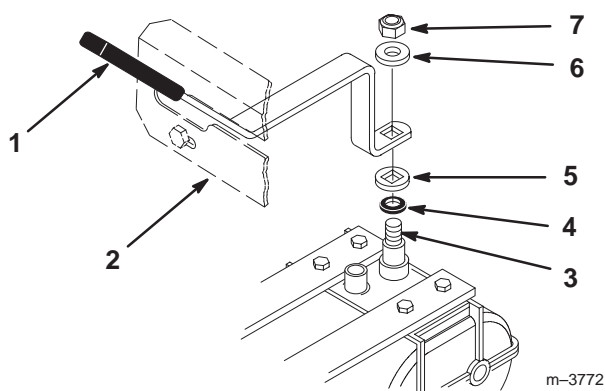

Figure 9
1. Remove the locknut (3/8 in.) and the spring washer (Fig. 9).
2. Slide the shift lever through the control panel, and align the mounting hole in the shift lever with the square on the transmission shaft (Fig. 9).
3. Secure the lever to the transmission with the spring washer and locknut you previously removed (Fig. 9).
4. Install the spring washer (dish down) and the locknut (Fig. 9).